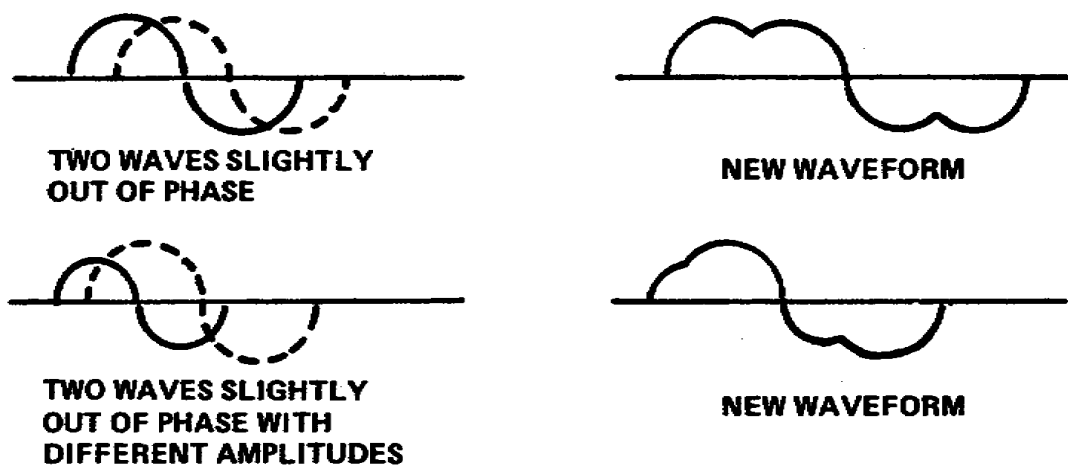

Figure 1-19. Examples of beat frequencies
c. Beat Frequencies. A beat frequency results from the partial union of like or unlike frequencies. At any instant of time the waves may be in phase with each other, out of phase, or in some degree of phase relationship between each other. This continual shifting back and forth of phase relationship results in a beating or pulsating sound and is referred to as beat frequency (fig 1-19).